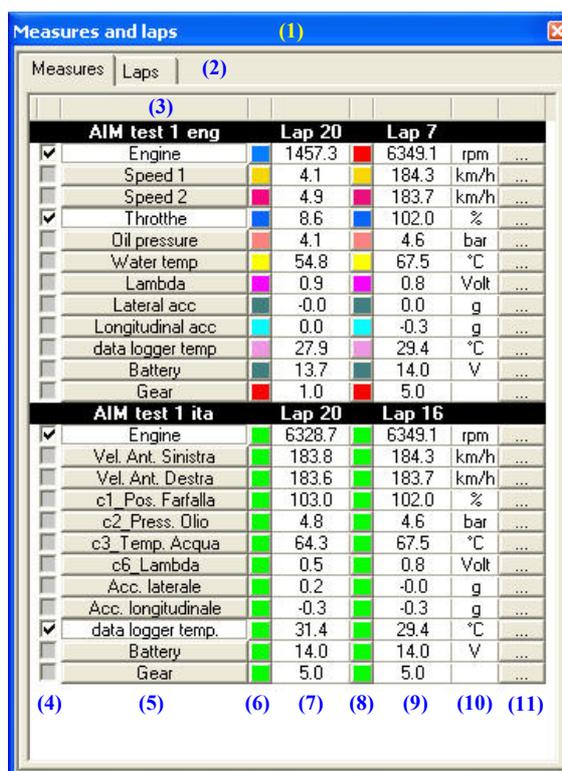

Fig. 4.4– *Measures and Laps* toolbar
As shown in Figure 4.4, the *Measures and laps* toolbar is organized on two different layers: the upper layer shows the sampled channels, while the lower one concerns the recorded laps. If you wish to switch from the Measures layer to the Laps one, or vice versa, please select the desired tab (2).
- Sampled channels and recorded laps, on different layers (2);
- Test name (3). If more than one test has been loaded, the *Measures and laps* toolbar will be divided into as many rows as the loaded tests: in Figure 4.4, for instance, it has been loaded two separate tests “AIM test 1 eng” and “AIM test 2 eng”.
- Graph-scale checkboxes column (4): if a box is checked, the scale corresponding to that channel will be displayed on the graph.
- Channel name column (5): in this column it is listed the channels’ names.
- Graph-colour column (6): in each square it is shown the colour used to plot the corresponding sampled channel (see chapter 4.7 for further information).
- Sampled data value column (7) corresponding to the first selected lap: when moving the vertical cursor on the graph (see chapter 4.1), the *Measures and laps* toolbar displays the sampled data values corresponding to that track position for the plotted laps.
- Columns (8) and (9) are similar to columns (6) and (7) and are related to the second loaded lap.
- Channels’ units of measure (10).
- Link to the *Measures information* window (11).
To activate the *Measure information* window, you may click  the *Test channels* command, located inside the *Modify* toolbar, you may click the proper button in the buttons toolbar, you may use the shortcut “ALT+F10”, you may click on the link to the *Measure information* window inside the *Measures and Laps* toolbar (labelled as (11) in Figure 4.4) or you may right click on a graph and select the “Modify test channels” function.